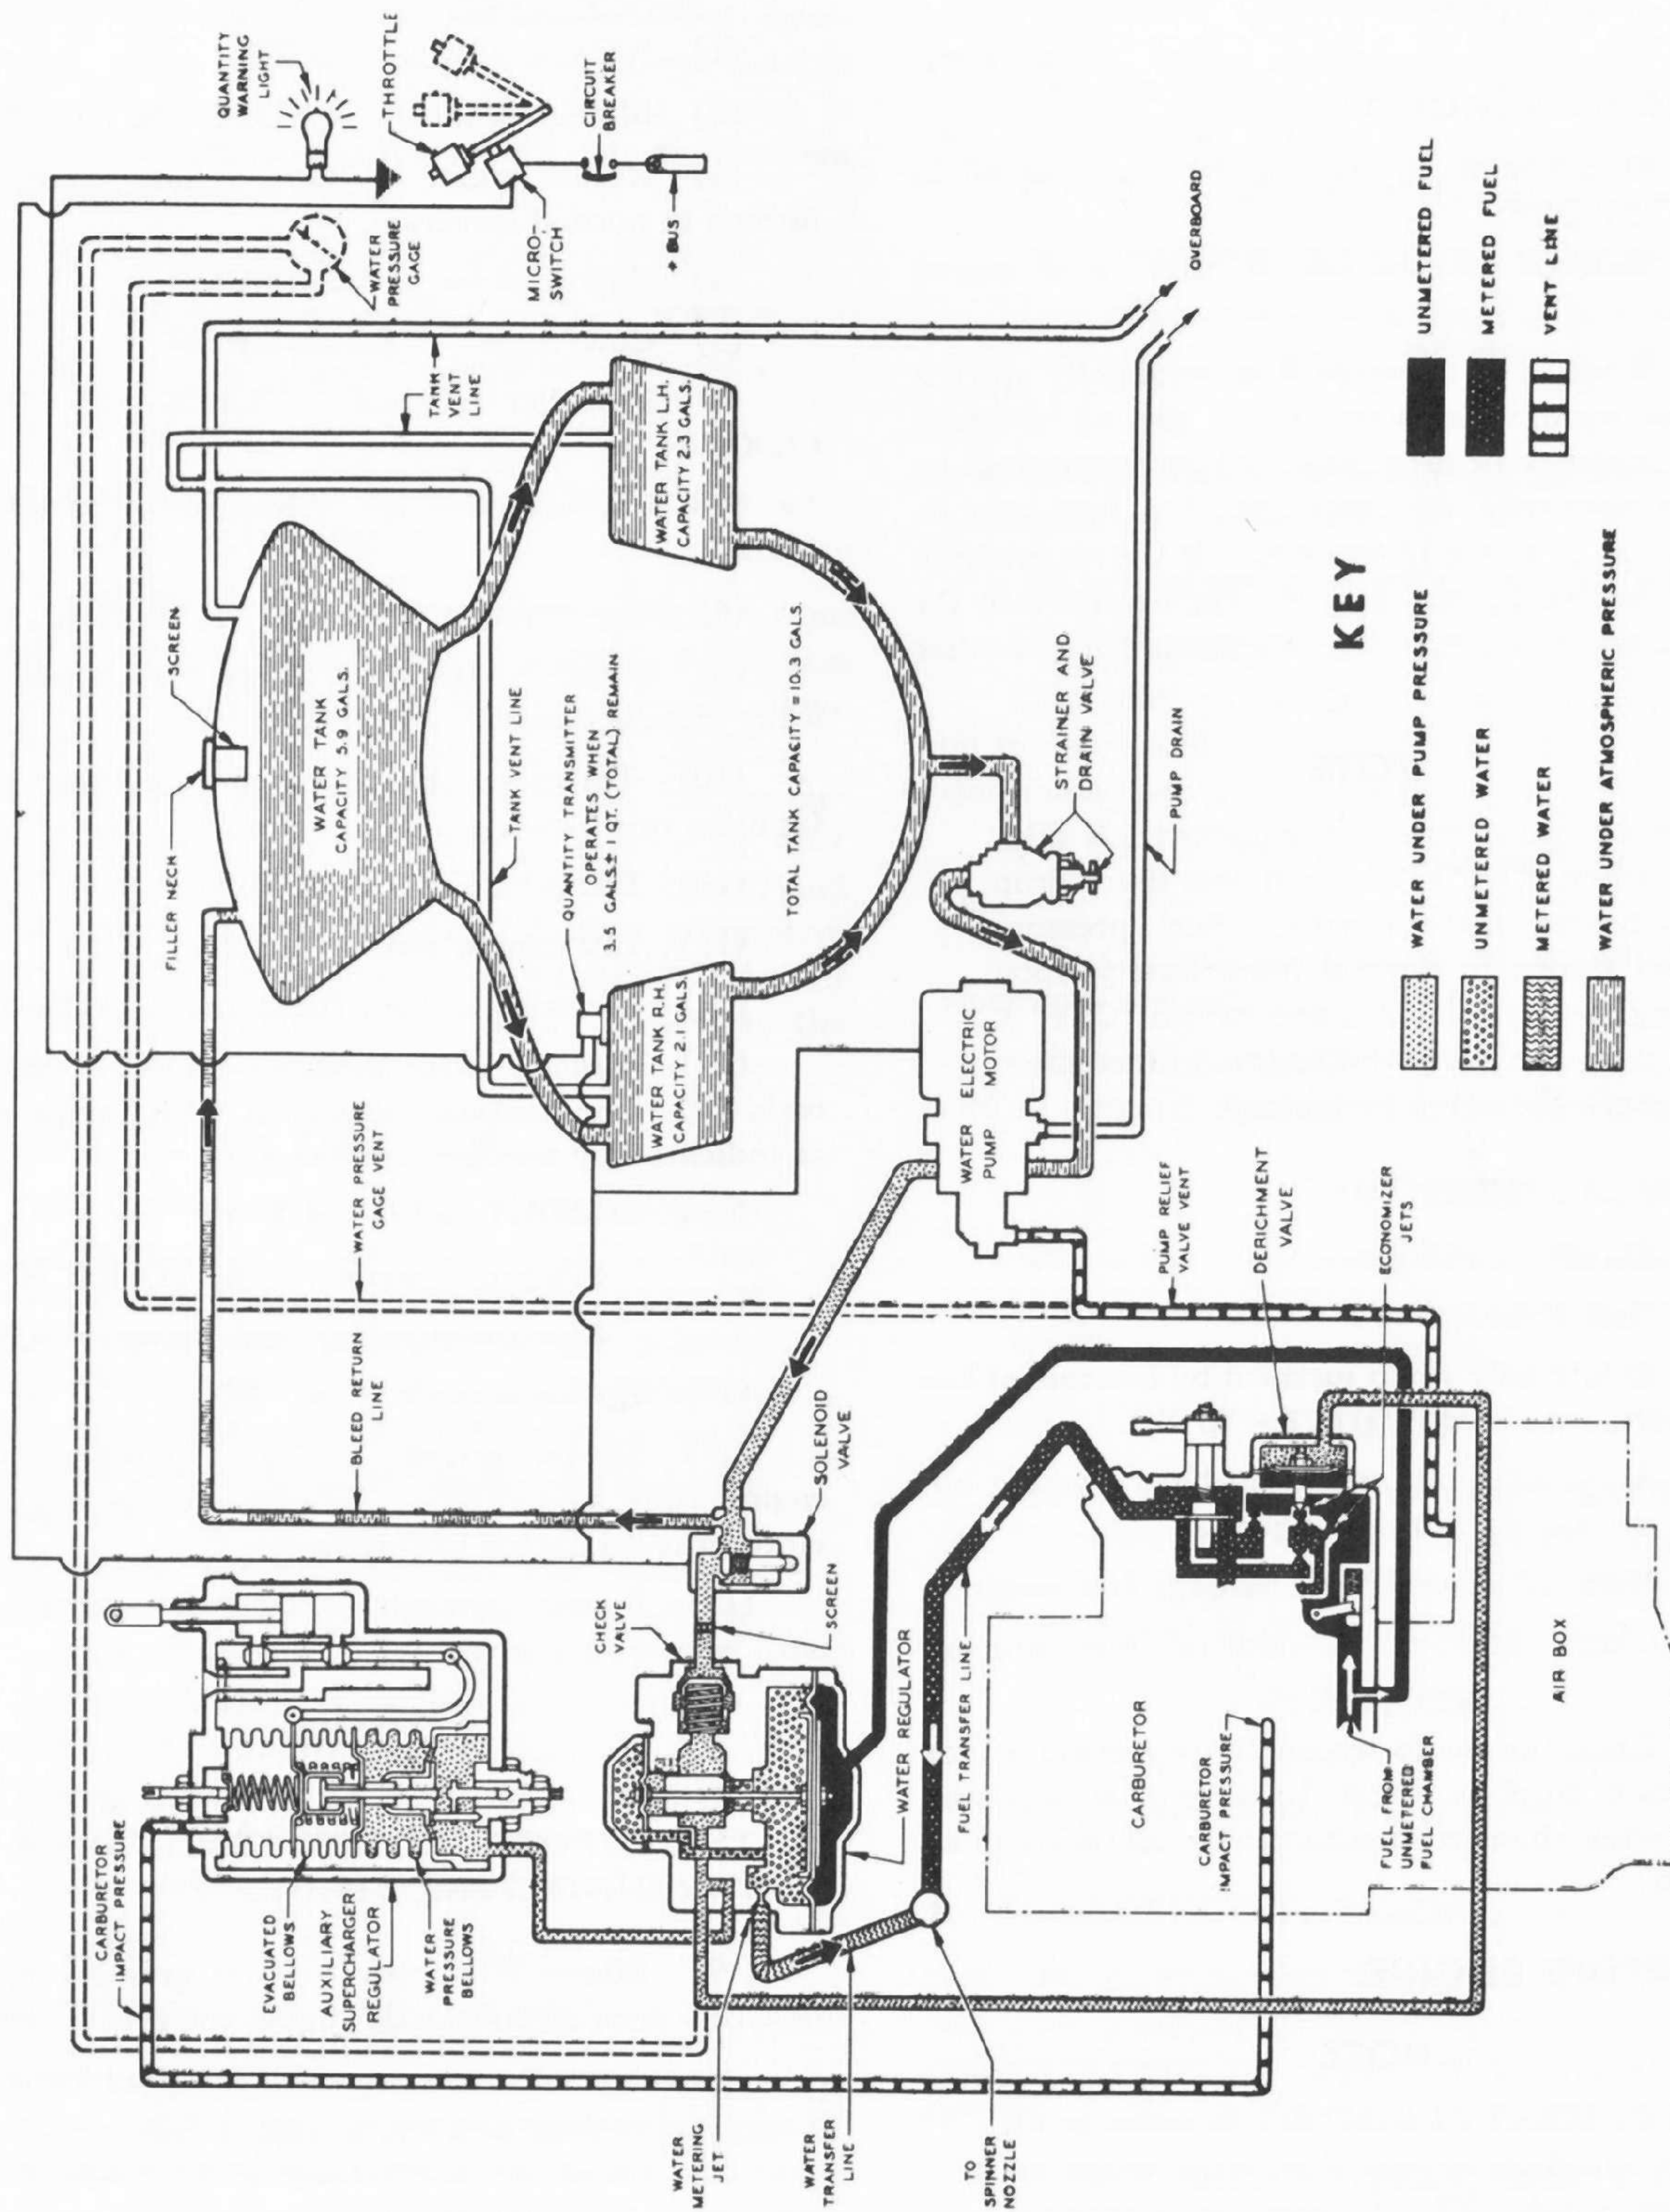

Fig. 29 — Water Injection System
(1) **OPERATION.**—The throttle operates the switch which controls the water injection equipment. Moving the throttle control full forward (breaking the safety-wire stop) turns the water injection equipment "ON." When the throttle control is in any other position, the water injection equipment is "OFF." The throttle operated switch opens the solenoid shut-off valve in the water lines and starts the electric water pump. Water pressure acts on diaphragms to shut off a jet in the carburetor ("deriching" the mixture) and to reset the auxiliary stage supercharger regulator, permitting higher carburetor inlet pressure. Water is metered by a water regulator, which operates in the same manner as the metering unit in the carburetor, and is mixed with metered fuel just ahead of the fuel spinner discharge nozzle which is located in the face of the main stage supercharger impeller. Refer to figure 29.